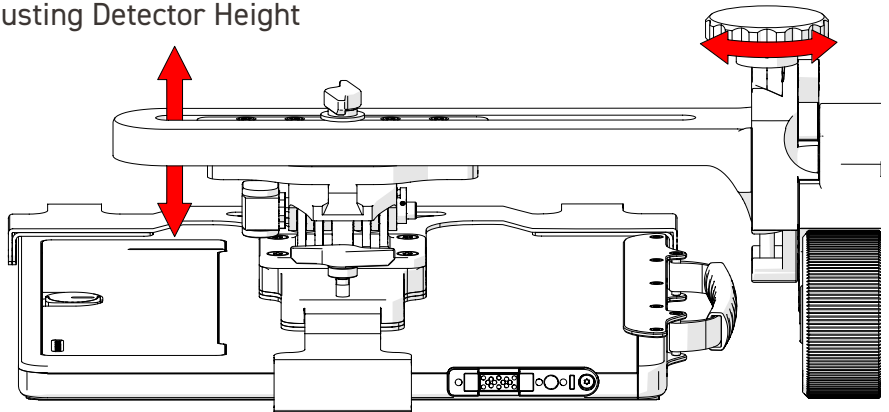

Fig. 57 - Rotating the red knob raises or lowers the detector arm
1. Rotate the red knob on the detector bracket to raise or lower the detector arm (Fig. 57).